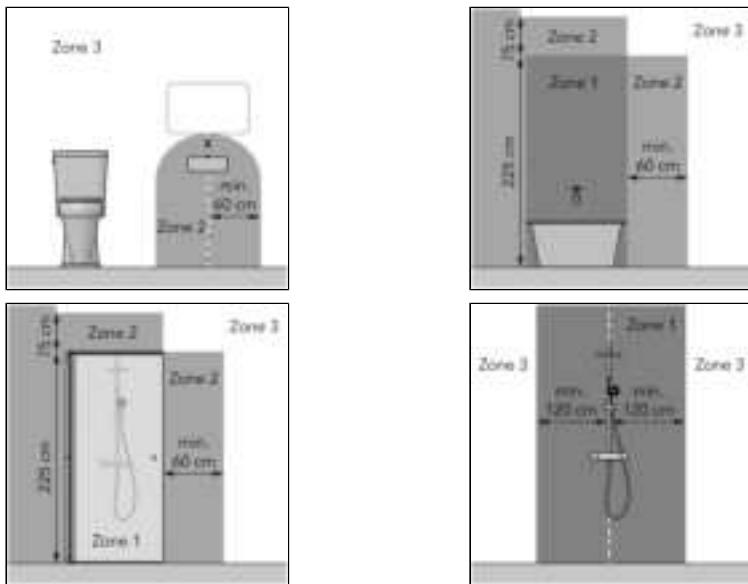

Figure 12.
- in zone 3 of a toilet room or bathroom with a bath, shower with screen or shower without screen, see Figure 12;